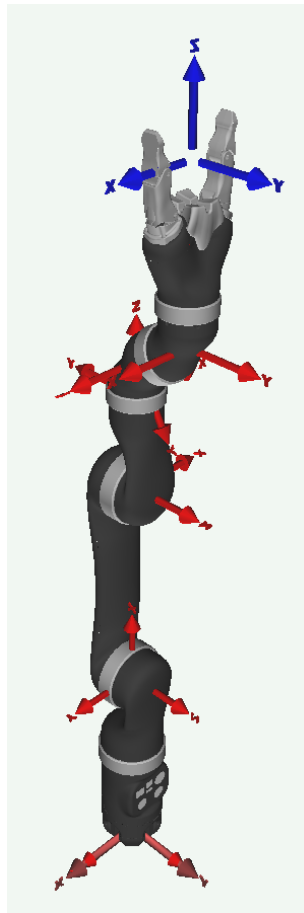

Figure 3.13: 6DOF MICO in the upward vertical configuration
Make sure the 6 DOF MICO is moved to the upward vertical configuration (i.e. pointing towards the ceiling, see Figure 3.13) BEFORE starting the QUARC controller model.
2. When un-powered, position the 6 DOF MICO robot arm so it is pointing vertically upwards towards the ceiling (as in Figure 3.13).